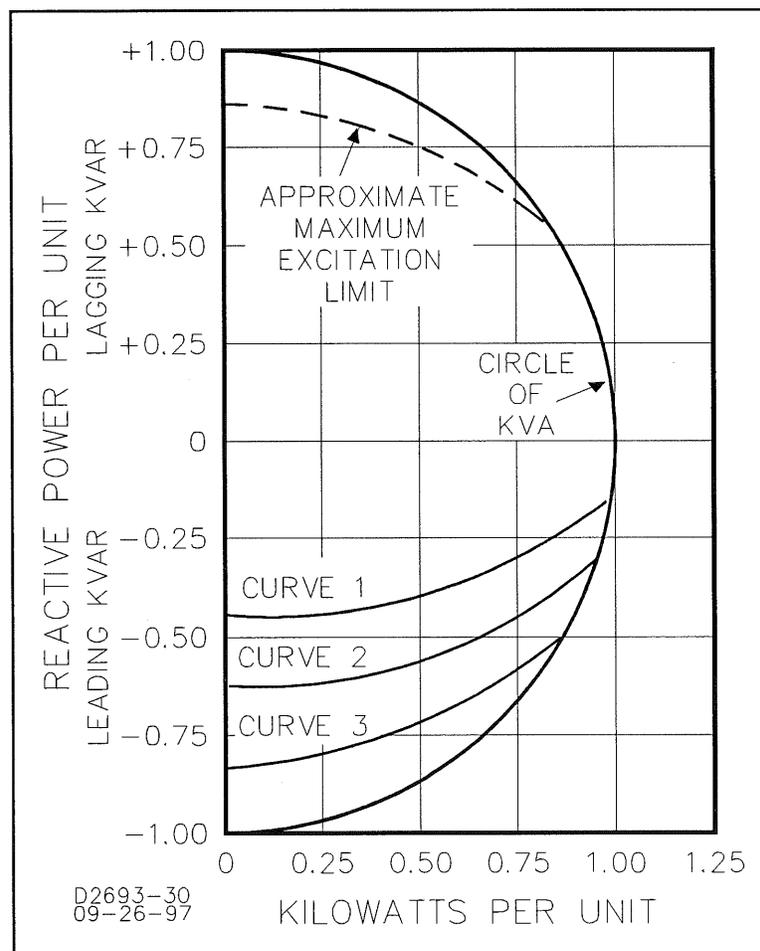

Figure 4-11. Leading kVAR Curves.
- f. Connect the curve selecting jumper from terminal TS3-4 to terminal TS3-1, TS3-2, or TS3-3 depending on the desired leading kVAR curve (refer to Figure 4-11).